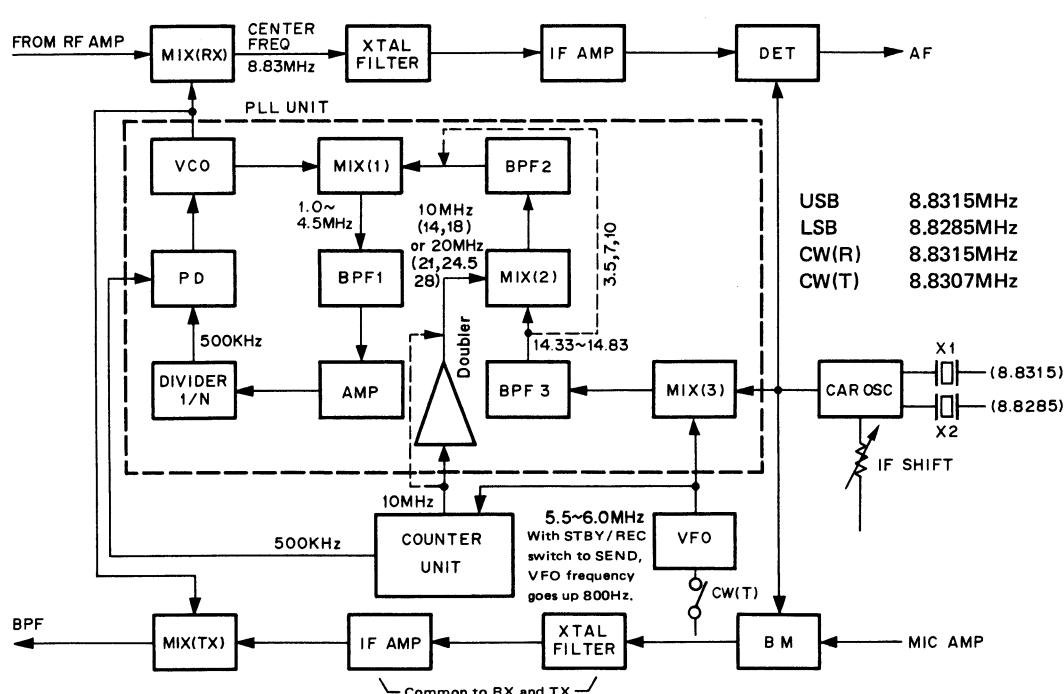

Fig. 1 TS-130 Frequency configuration
The TS-130 employs single conversion with a unique PLL circuit, as shown in Fig. 1.
Referring to Fig. 1. MIX (3) combines CAR and VFO signals and is operated straight through to mixer (1) on 3.5, 7 and 10 MHz. MIX (2) operates at 14 MHz and above with the output of MIX (3) to provide mixer (1) input, as shown in Table 4. MIX (1) output is filtered, amplified, shaped and divided by the programmable divider to obtain 500kHz output.
The CAR oscillator contains one oscillator and two crystals for LSB, USB and CW operation. The oscillator frequency in each mode is listed in Fig. 1.